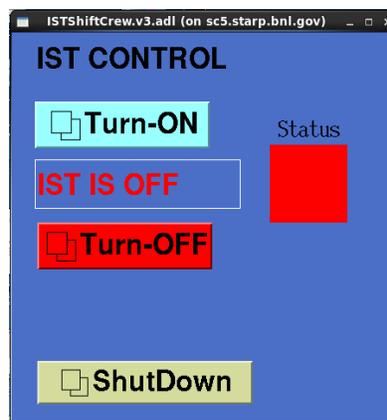
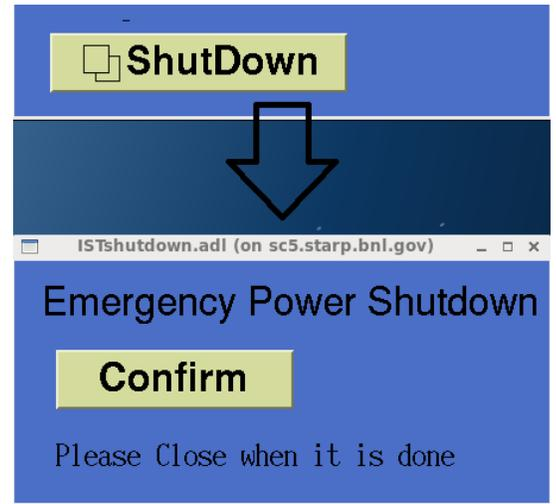

Figure 1 Main IST Shift Crew GUI
Figure 6
The main IST GUI (Figure 1) should always be running on IST-OPS2, the PC on the left-hand side to the door when you entering the STAR control room (Display labeled as **IST-OPS2.STARTP.BNL.GOV**). In case it is not running:
- 3- Type into the terminal " IST\_GUI\_shiftcrew" and hitting "Enter", the main IST GUI (Figure 1) will pop up.
- 4- The color of the status bar on the right shows whether IST is **ON** (Green) or **OFF** (Red) or **Unknown** (White) status. A text message should tell whether "**IST is READY**" (for physics data taking) or "**IST IS OFF**". **Note: If status bar or any indicator in main GUI is White immediately follow error procedure of "Link to ioc Lost" from failure code section 5 (IV).**
- 1- Click on “Turn OFF” button in the IST main GUI (Figure 1). A window (Figure 4 left) will show up to ask you for confirmation to turn off the IST.
- 1- Click on the “ShutDown” button in the main GUI (Figure 1). A new window will pop up (Figure 6).